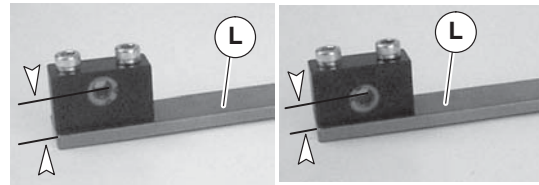

Figure 3
2. Check bearing support assembly (Figure 3, item L) setup: 2100 (left) and 4100 or 6100 (right).